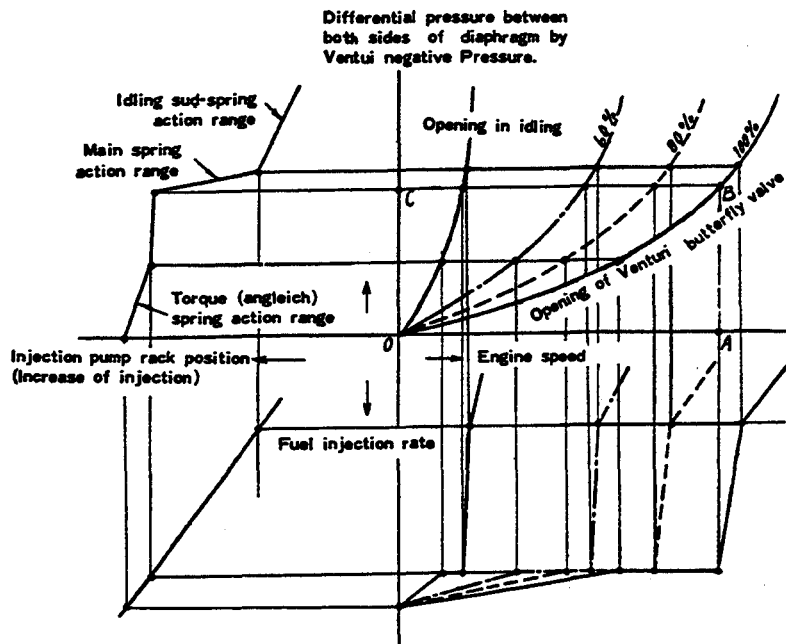

Fig. 3-25 Diagrammatized principle of pneumatic governor operation
- 2) Now, following the scheme and diagram of operation principle, we will briefly explain how this governor operates. When intake air passes through Venturi that closes inlet manifold to some extent, its flow velocity rises but at the same time, static pressure at that part (to be taken through pipe that opens to its flow direction at a right angle) falls considerably below the pressure on the area free from the inflow of air (generally, atmospheric pressure) or in short, turns into negative. This negative pressure rises, as can be seen in Fig. 3-25, with the rise of engine speed and consequently of flow velocity of intake air. Through an air pipe, it is conducted into negative pressure chamber in diaphragm block to work on diaphragm. The governing force it produces is calculated:
Now suppose that max. engine speed needs to be governed at A (r.p.m.). While, with Venturi butterfly valve opened 100%, main spring with setting load equivalent to governing force F_c that is produced by negative pressure C at point B on Venturi negative curve (Fig. 3-25) is placed on diaphragm. When the